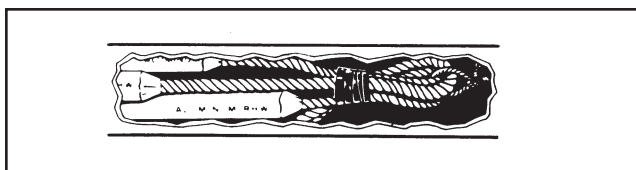

Figure 6
e) Where conductors are pulled with a rope, stagger the conductor ends and anchor in position with tape, to provide maximum flexibility around bends (Figure 6).